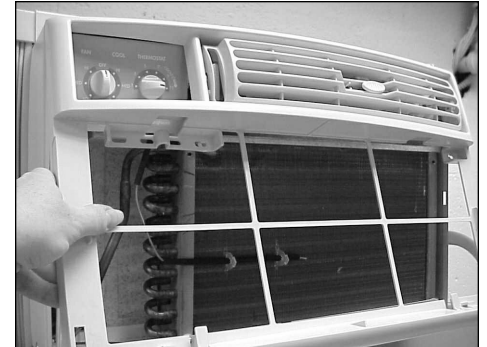

FIG. 2
- Position the top of the decorative front over the top flange of the case, and align the tabs with the slots in the case (Fig. 2).